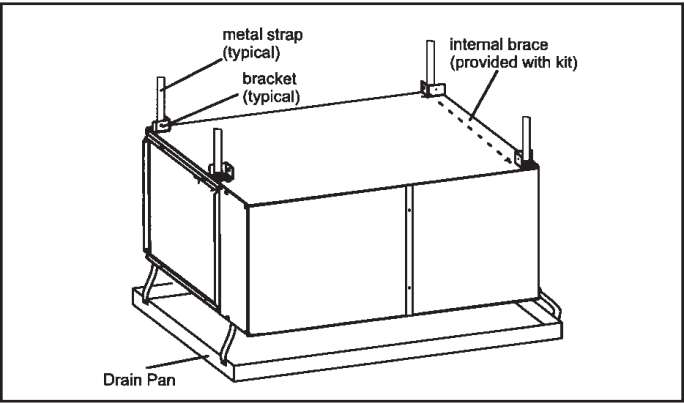
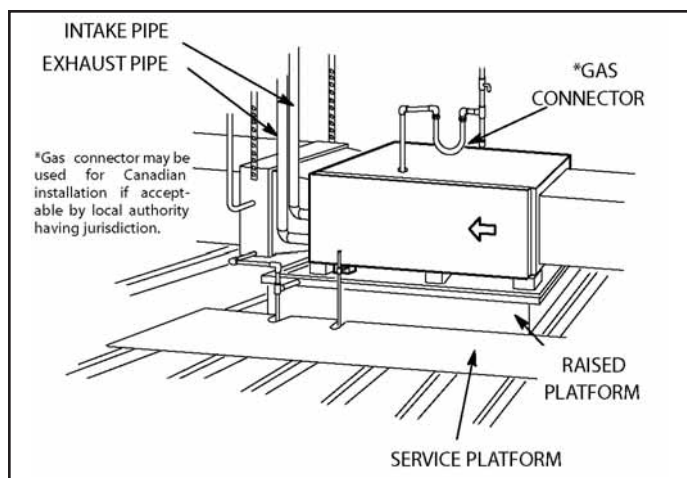

Figure 12. Typical Horizontal Application
Figure 13.
This furnace may be installed in either an attic or a crawlspace. Either suspend the furnace from roof rafters or floor joists, as shown in Figure 12 or install the furnace on a platform, as shown in Figure 13. A horizontal suspension kit (51W10) may be ordered or use equivalent.
2. Construct a raised wooden frame and cover frame with a plywood sheet. If unit is installed above finished space, fabricate an auxiliary drain pan to be installed under unit. Set unit in drain pan as shown in Figure 13. Leave 8 inches for service clearance below unit for condensate trap, unless trap is installed remotely.